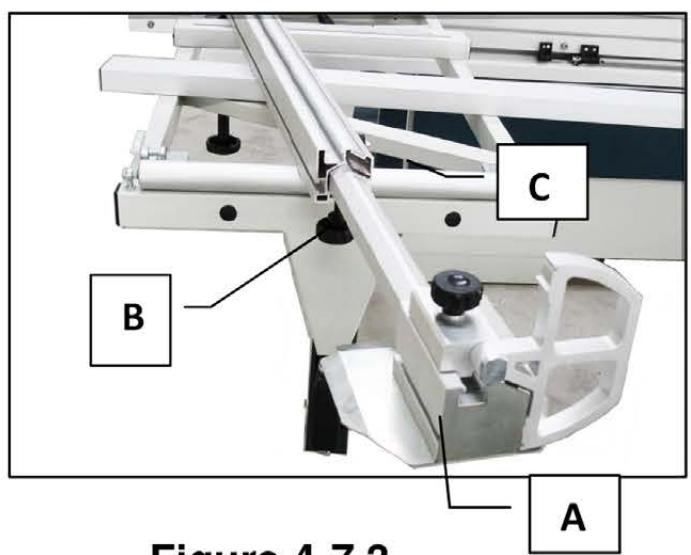

Figure 4-7.3
For cutting panels of width exceeding 1860mm, you have to use the extension part A (Fig. 4-7.3) and follow steps below:
1. Loosen knob B(Fig. 4-7.3)
2. Move extension part A (Fig. 4-7.3).
Note: point C (Fig. 4-7.3) indicates the width value.
3. After move the extended millimeter rule to your desired length by read out the value from point F (Fig. 4-7.3), tighten the knob B(Fig. 4-7.3) for fixing.